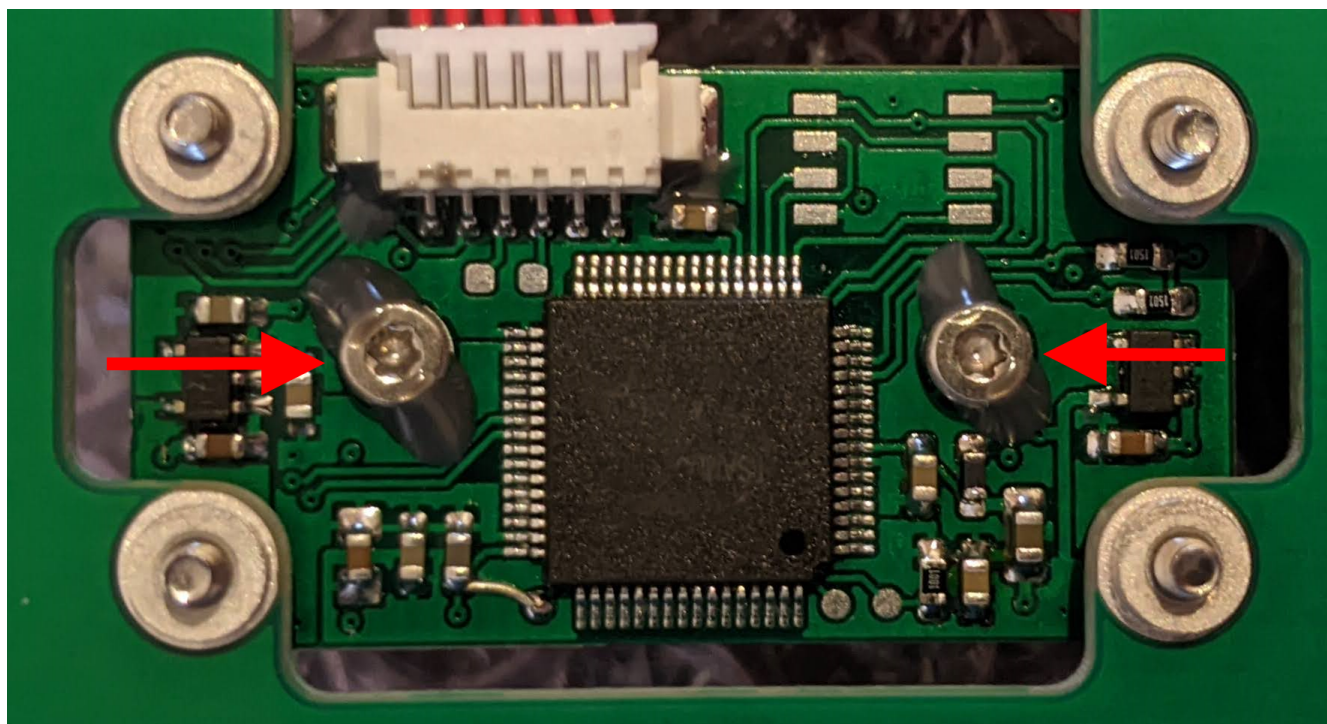

Figure 6: Staking of the lens holder screws.
1. Torque the lens mount screws (Figure 6) to 0.2Nm using a T6 Torx driver.
2. Stake the lens mount screws as per Figure 6. **Ensure no epoxy touches any electrical components.**